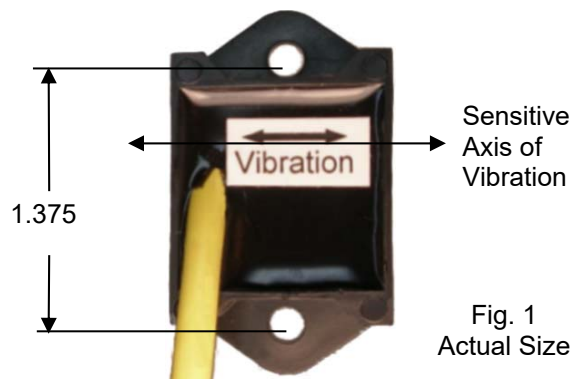
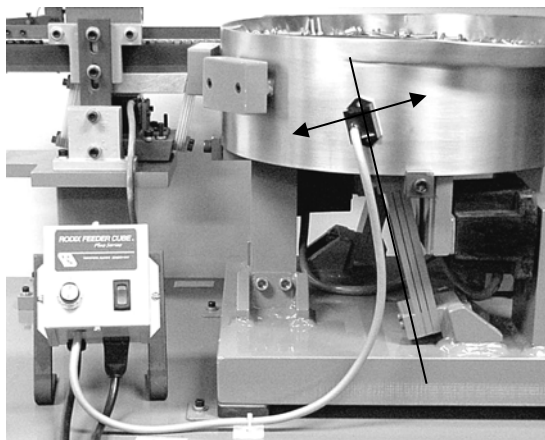

Fig. 1
Fig. 2 The arrow shows the direction of vibration which is at a right angle to the spring pack.
**A. ORIENT THE SENSOR** so that its sensitive axis is in the same direction as the vibration of the feeder. The double-ended arrow in figure 1 shows the sensor's sensitive axis. Align the sensitive axis of the sensor in the same direction as the vibration (see figure 2). The sensor must be oriented correctly for proper operation.
The cable should hang straight down from the sensor without touching the feeder bowl or anything else. The sensor cable should bend towards the power control with a bend radius of 3 inches or greater. Use a tie-wrap mounting-base to anchor the sensor's cable to the machine base (or a non-vibrating surface). See Figure 2.